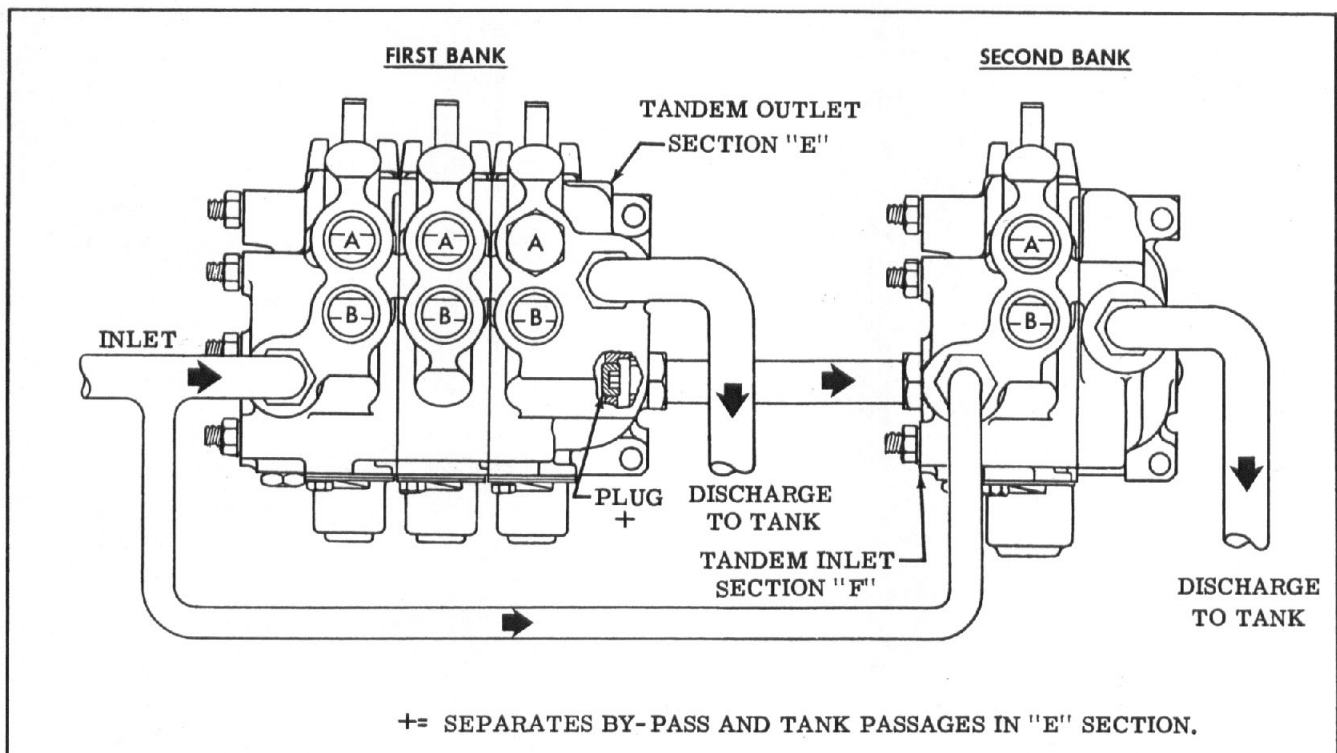

Figure 8
7. **Tandem Operation** - Tandem operation permits operation of two banks of valves from the same pumping source. An internal plug in the outlet section of the first bank (see Figure 8) separates the by-pass passage from the tank passage. Cylinder exhaust oil is returned to tank via the alternate discharge port, and by-pass oil is directed out the primary discharge port to the by-pass port of the bank.
In Figure 8, either bank can be operated separately or both simultaneously. This is possible because of the tandem by-pass connection from the inlet connection of the first bank to the F inlet connection of the second bank. If neither bank is operating, part of the fluid flows through both by-pass passages directly to tank. The balance is diverted through the tank passage of the first section as shown in Figure 2.
1. Piping arrangement for tandem series operation is shown in Figure 8.
2. The outlet section of the first bank must be an "E" section which is equipped with a plug (see Figure 8) to block the primary discharge port from tank. The discharge to tank port must be connected to tank.